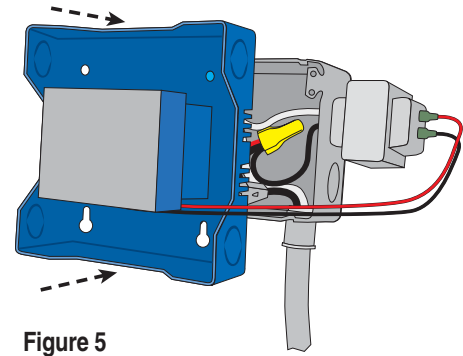

Figure 5
- Using the 2 of the 4 holes in the back of the enclosure, securely fasten it to the electrical box with 2 size 10 screws as shown in Figure 5.